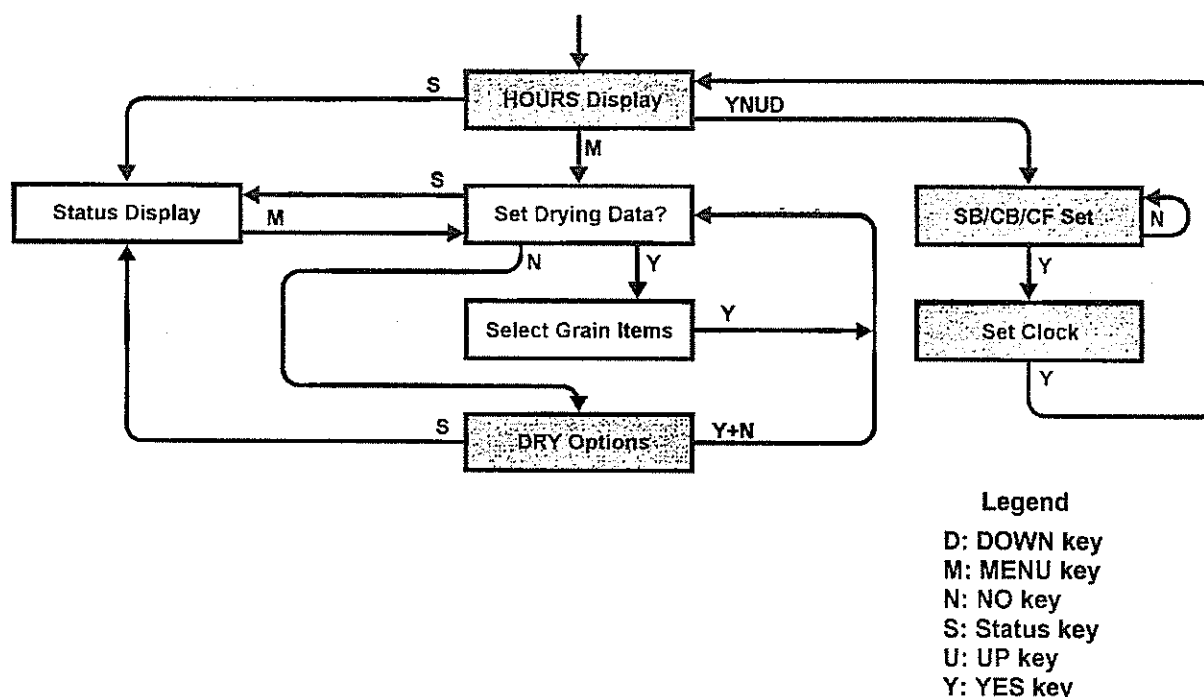

Figure 4-C Path followed by controller from the status display to setting grain drying parameters.
4.2.2.2.3 Establishing Drying Conditions - Press and release the MENU key. The path taken by the controller to reach the grain parameter setting display is shown in Figure 4-C.